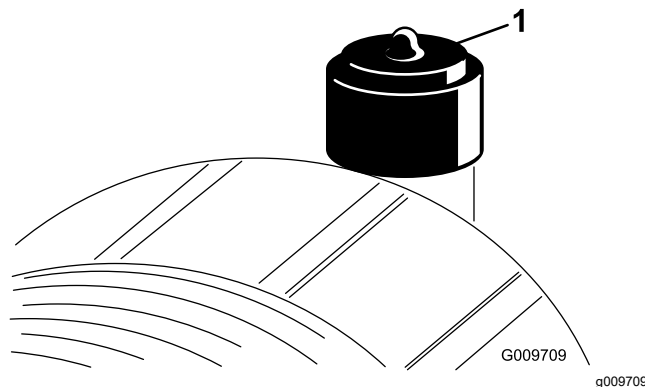

Figure 51
Service the air-cleaner filter only when the service indicator (Figure 51) requires it. Changing the air filter before it is necessary only increases the chance of dirt entering the engine when the filter is removed.
9. Reset the indicator (Figure 51) if it shows red.